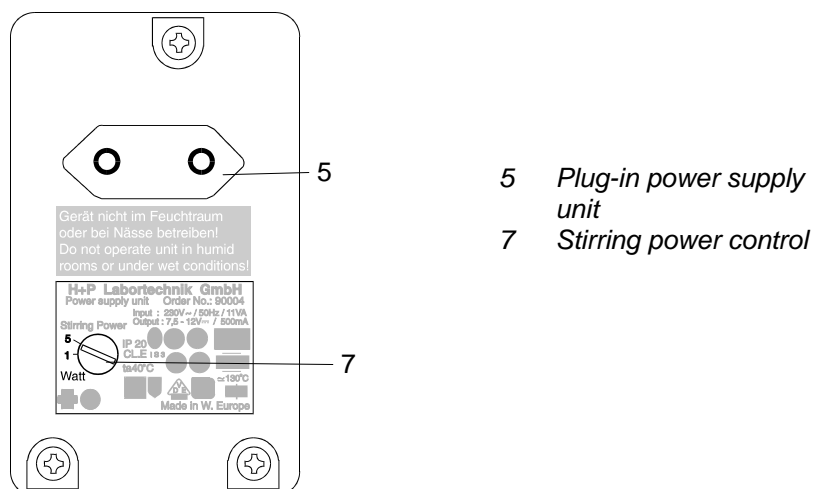

Figure 4: Plug-in power supply unit with preselectable stirring power, back
- ◆ Turn the rotation speed control button (1) to position OFF.
The plug-in power supply unit (5) supplies **MONO DIRECT** with adjustable stirring power. The power can be selected using the adjustment knob on the back of the power supply unit (5). You have a choice of 1 and 5 watts of stirring power (Figure 4).